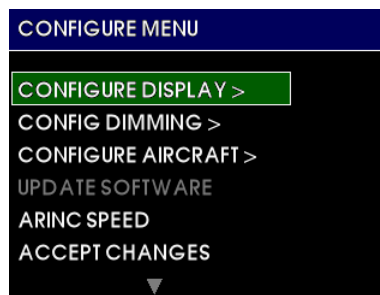

FIGURE 4.1
To enter the Configuration Mode, press and hold the control knob prior to applying power to the unit. After approximately six (6) seconds, the following message will appear: "CONTINUE HOLDING TO ENTER INSTALLER MODE". After a few more seconds, the introduction screen will appear and the knob can be released. You will now see the CONFIGURE MENU as shown in Figure 4.1.